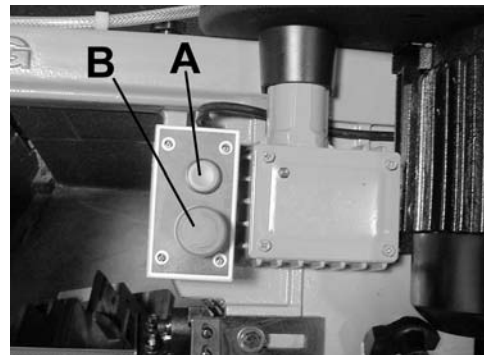

FIGURE 4
- 2) The machine is started by pushing the start button (A) Fig.4, and it will continue to run until the emergency stop button (B) is pushed.
The motor fixing bolts (B) must be loosened in order to slide motor in and release belt tension. Remove belt from pulleys (C) and reposition in the desired speed/belt configuration. See Fig.4.